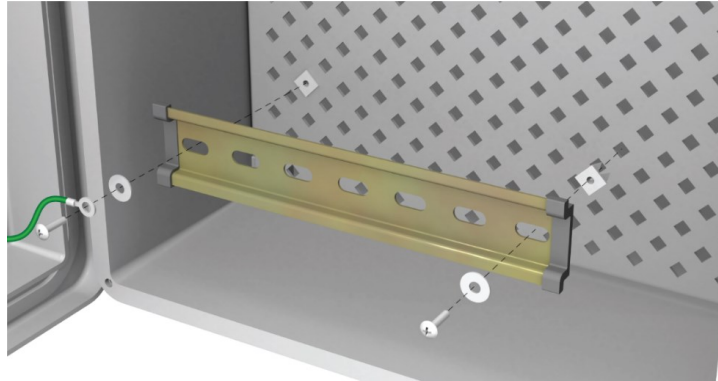

FIGURE 6-3. Mounting the DIN rail and ground wire
3. Insert grommets into the two holes noted in step 2 (FIGURE 6-3 (p. 10)). Secure the DIN rail to the backplate with the screws and washers included with the DIN rail. If a ground wire is included, slide the eyelet on one end of the ground wire over one of the mounting screws prior to securing the DIN rail. The other end of the ground wire is secured to the enclosure ground terminal.